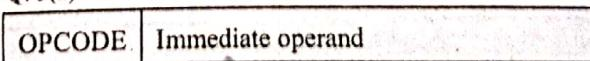

Fig. 3- Q. 5(a) : Instruction encoded with an immediate operand
- In this case the operand is in the instruction itself. It is said to be immediate addressing mode as the operand is in the immediate next location of the OPCODE. Fig. 3- Q. 5(a) shows format of instruction encoded with immediate operand.